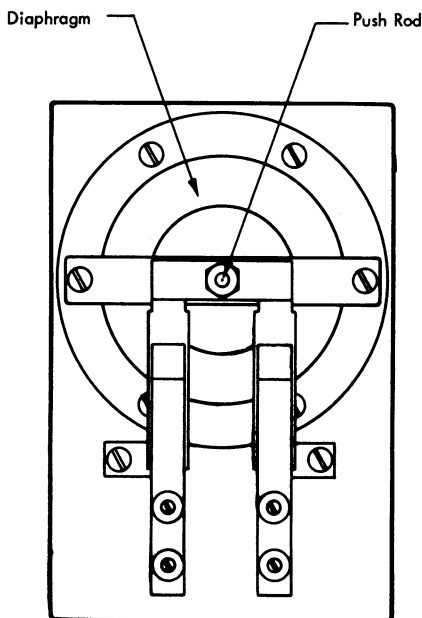

Figure 50. Vacuum Column Switch
vacuum column switch is shown in Figure 50. The presence of a vacuum causes the diaphragm to move in a direction to transfer the contacts of the switch. For greater reliability, two sets of contacts are used in parallel.
*Push Rod:* The vacuum switch push rod should have 1/64-inch clearance between the adjusting nuts and the switch transferring contact strap. Position the adjusting nuts as required to attain this condition (Figure 50).